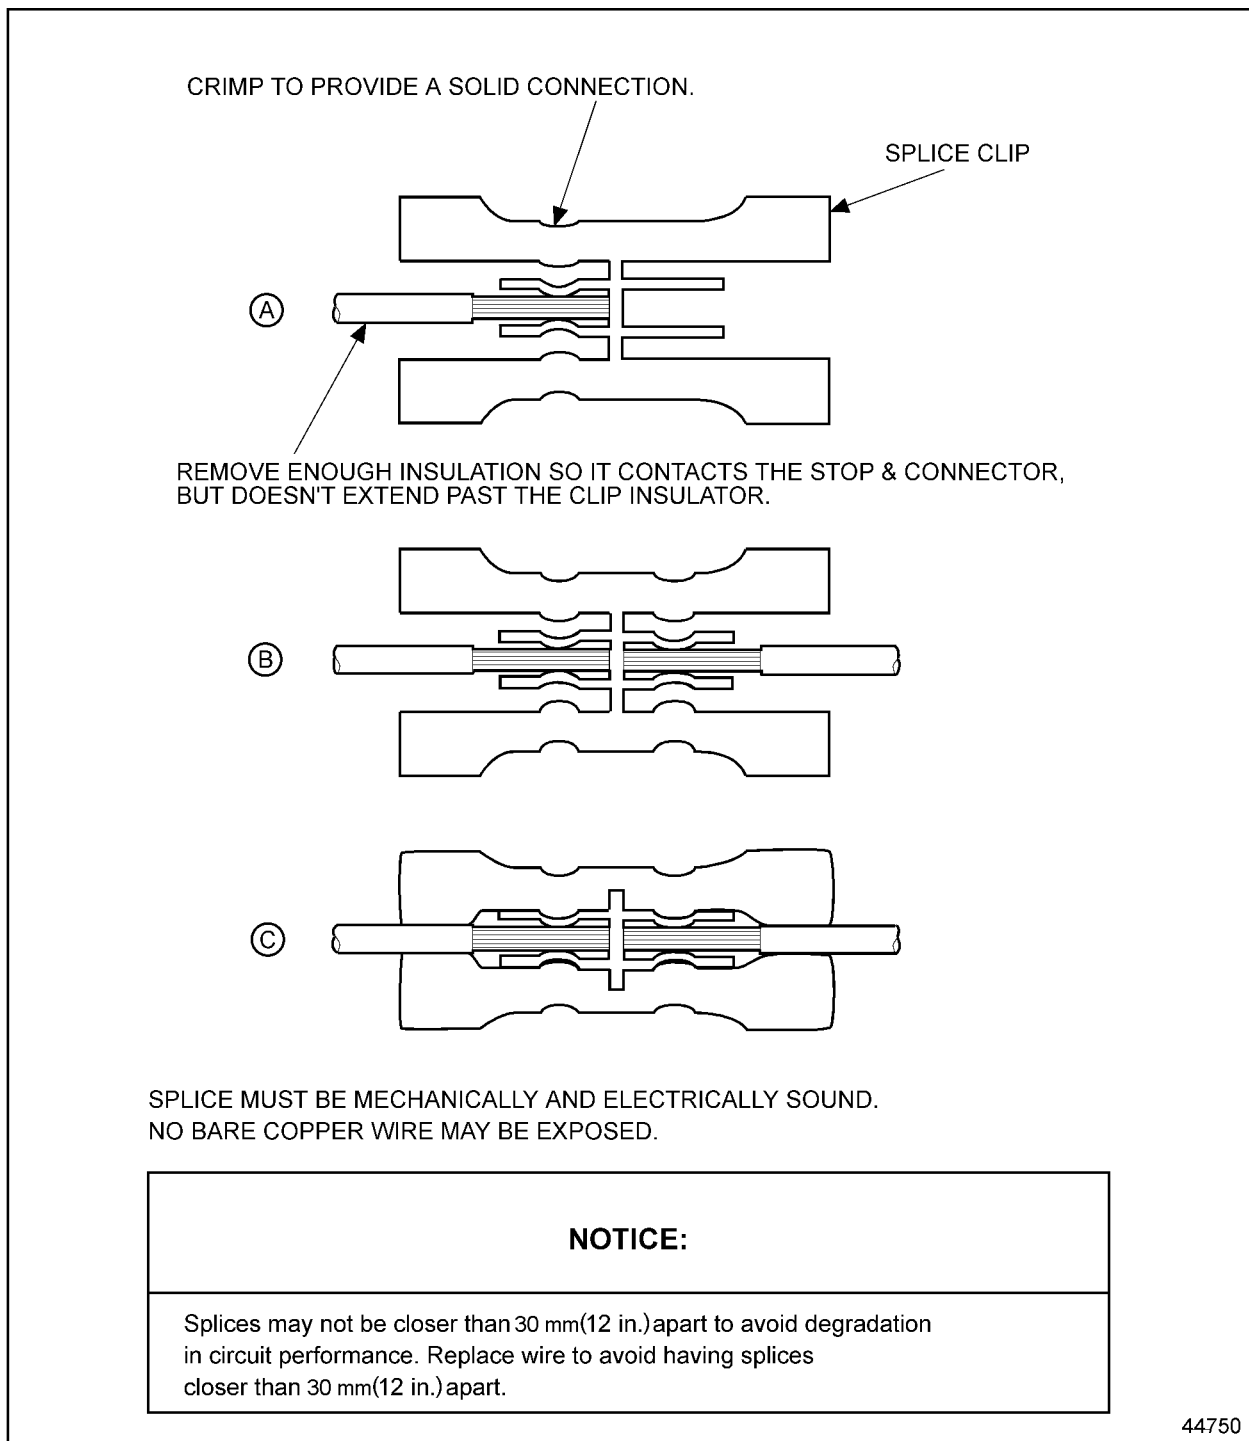

Figure 2-25 Splicing Straight Leads - Alternate Method 1
3. Insert one wire into the splice clip until it butts against the clip. Stop and crimp (see Figure 2-25, A).
4. Insert the other wire into the splice clip until it butts against the clip stop (see Figure 2-25, B).
7. Shrink the splice clip insulative casing with a heat gun to seal the splice (see Figure 2-25, C).